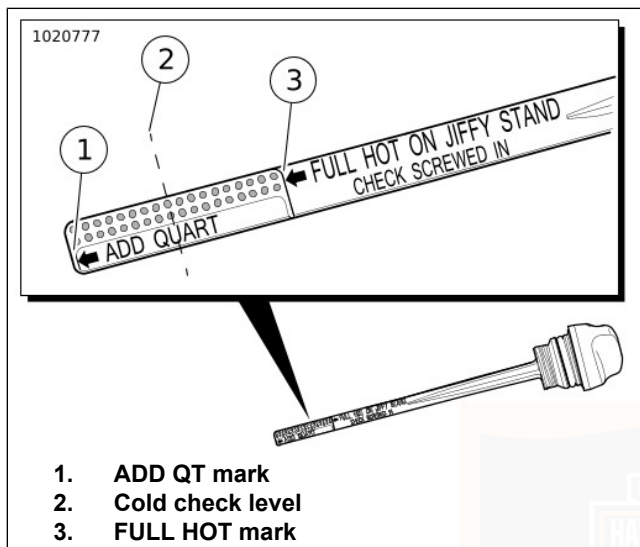

Figure 51. Engine Oil Dipstick
- e. See Figure 51. Check oil level. The correct cold oil level is midway (2) between the ADD QT (1) and FULL HOT (3) marks on the dipstick.
5. Check oil level. Add only enough to bring level midway between the ADD QT (1) and FULL HOT (3).
- e. See Figure 51. Check oil level. Oil level must register between the ADD QT and FULL HOT marks on the dipstick.